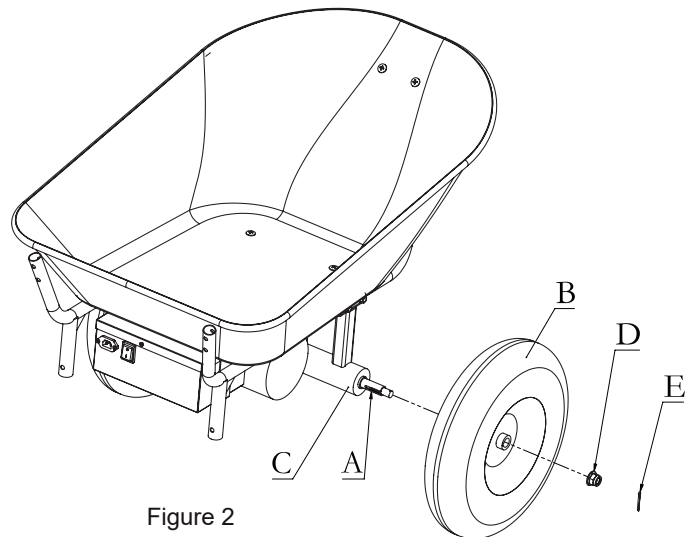

Figure 2
Fix flat key(A) and wheels(B) on the drive axle(C) with nuts M14(D), pin 2.8x30(E). (See Figure 2)